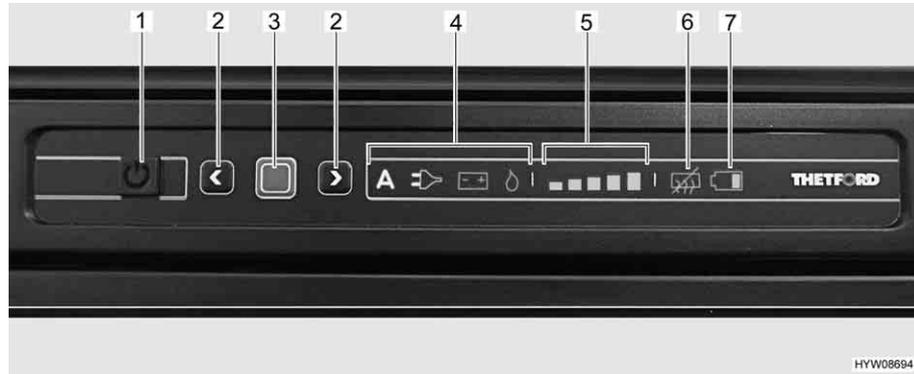

Fig. 179 Thetford N3000 refrigerator with LED operating panel
- Press and hold the On/Off button (Fig. 179,1) for 1 second. The button lights up green. To save energy, after approximately 10 seconds the display is dimmed.
- Press confirmation button (Fig. 179,3). The operating mode previously selected is displayed.
- Press and hold the confirmation button (Fig. 179,3) for about 2 seconds. The operating mode symbols flash.
- Manual power selection: use the arrow keys (Fig. 179,2) to select the desired energy source.
- Automatic power selection (only version with automatic power selection): use the arrow keys (Fig. 179,2) to select the operating mode "A".
- Confirm your selection with the confirmation button (Fig. 179,3).
- Press confirmation button (Fig. 179,3) again. The cooling level indicator (Fig. 179,5) flashes.
- To change the setting, press the arrow keys (Fig. 179,2) until the desired setting is displayed.
- Press and hold the On/Off button (Fig. 179,1) for about 2 seconds. All lights go out. Refrigerator is switched off.
After switching it on, the refrigerator automatically selects the previously selected thermostat position. This position can be adjusted manually by using the arrow keys (Fig. 179,2). It takes a few hours till the refrigerator reaches its normal operating temperature. When changing over to another operating mode, the thermostat setting is kept.